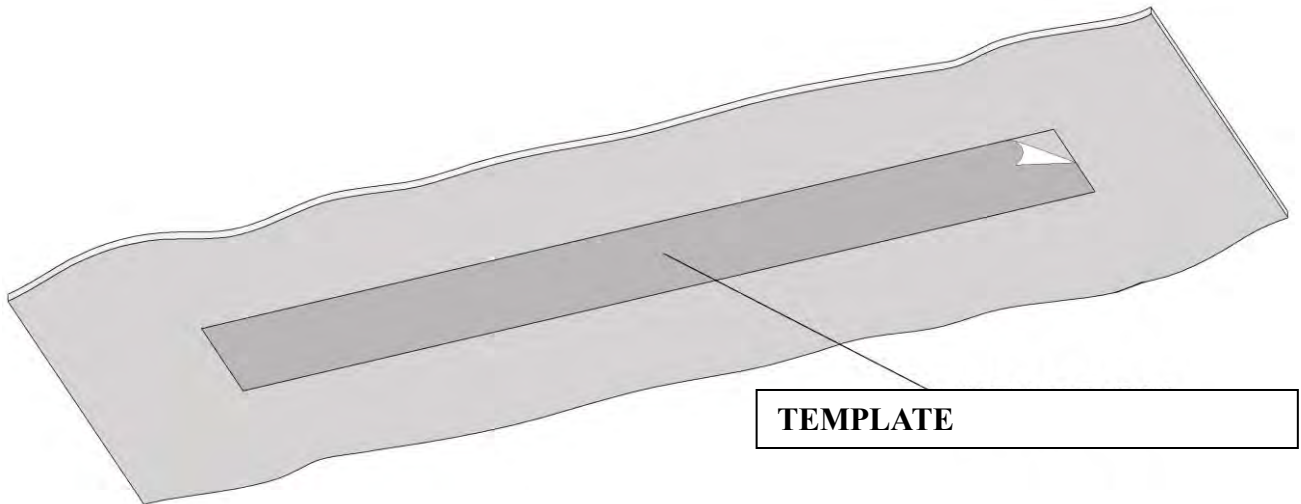

Figure 1
2. In the location chosen for installation of the screen, apply the foil template for the main screen slot and then draw around its perimeter with a pencil (**Figure 1**). Remove the foil template and carefully cut the ceiling slot along the pencil line .